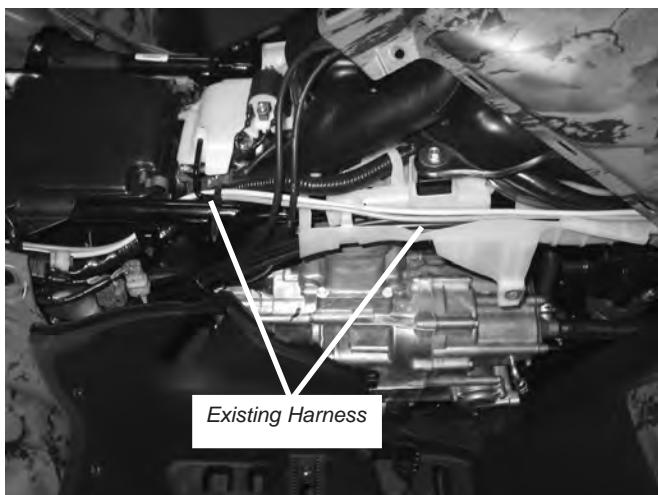

Figure 31 Switch Lead Routing
- g. Route switch leads to the contactor at the rear of the ATV by following the original wiring harnesses along the right side of the frame, figure 31.
- b. Route the winch wires (yellow and blue) from the left side of the ATV across to the right passing in front of the steering column and following the existing wiring harnesses. Complete the cable routing by following the switch lead path along the right side of the ATV to the contactor, figure 31, figure 33, and figure 34.